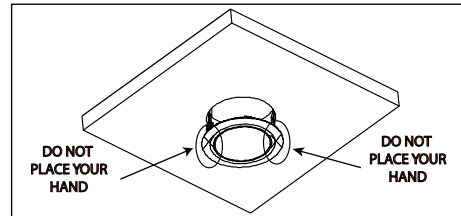

Figure 5 / Figura 5 / Schéma 5
- DO NOT PLACE YOUR HAND UNDERNEATH SPRING CLIP DURING REMOVAL PROCESS. SNAPPING OF THE CLIPS CAN CAUSE INJURIES TO THE HAND. (Figure 5)